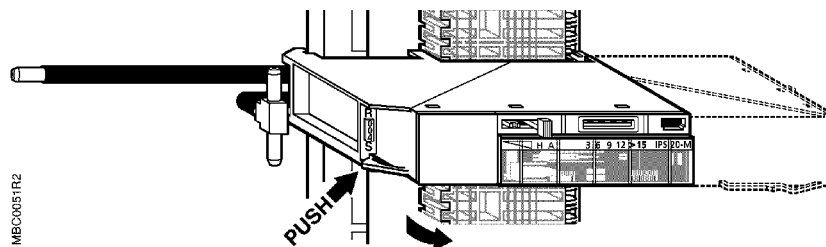

Figure 8. Repositioning or Removing an AO-P Module.
1. While pressing the AO-P module toward the connector block, push the module housing release tab located on the left side of the AO-P (Figure 8).
2. Tilt the AO-P module out of the M-BUS rail (shown in Figure 8).